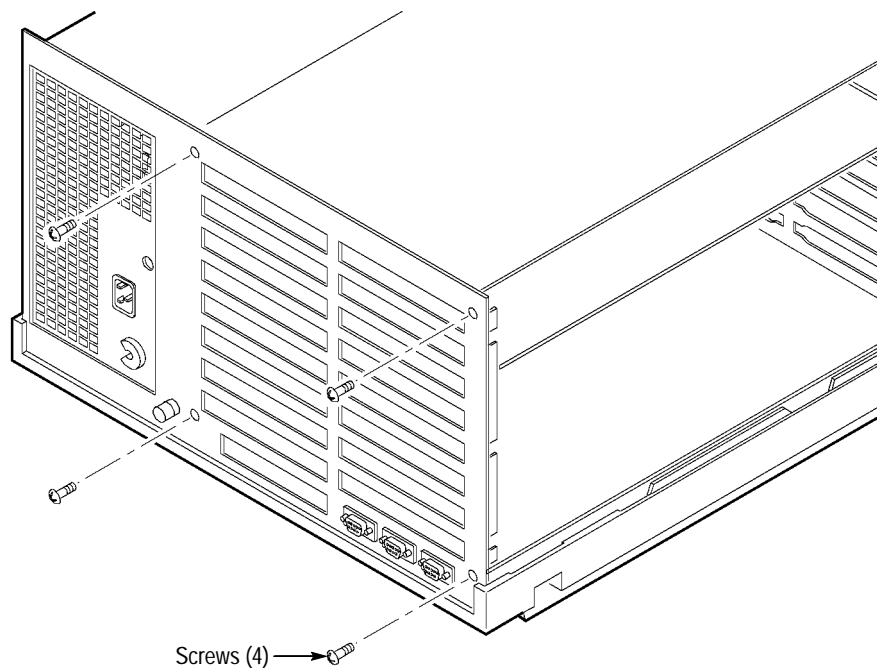

Figure 3-12: Back Panel Screw Locations for Removing the Card Cage
8. Remove the four screws from the back panel, as shown in Figure 3-12.